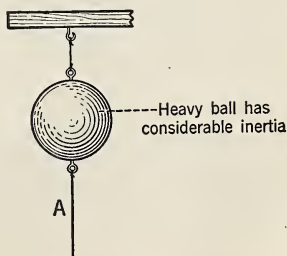

FIG. 17. The heavy ball has considerable inertia.
16. In Fig. 17 the segment of string supporting the ball is cut from the same piece as the segment attached below the ball.